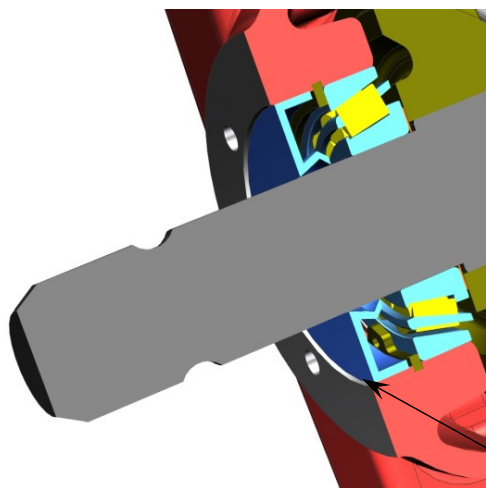
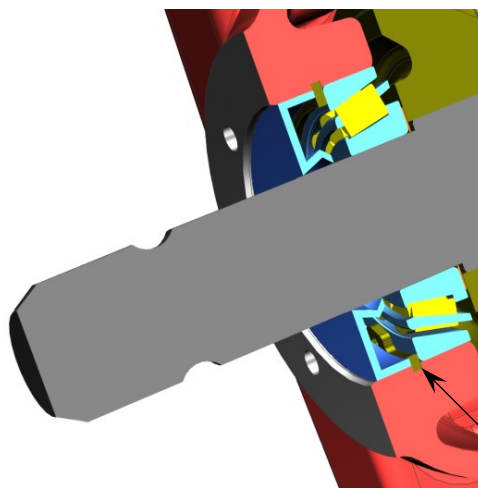

Fig. 2
Fig. 3
- Oil seal must be assembled 1÷1.5 mm below housing external surface, as shown on fig. 2
- When is impossible assemble the oil seal as shown on fig. 2, align the oil seal surface against snap ring, paying attention to not preload the bearings preload fig. 3.
The Loctite film have to be applied on contact faces, as shown on figure 3.